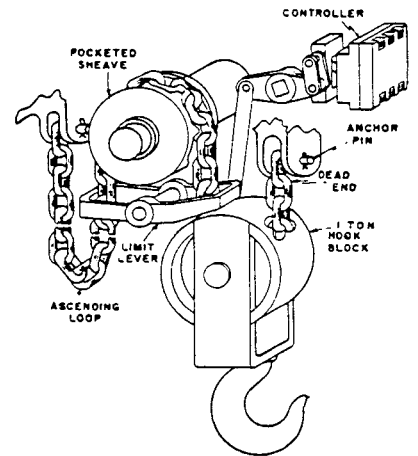
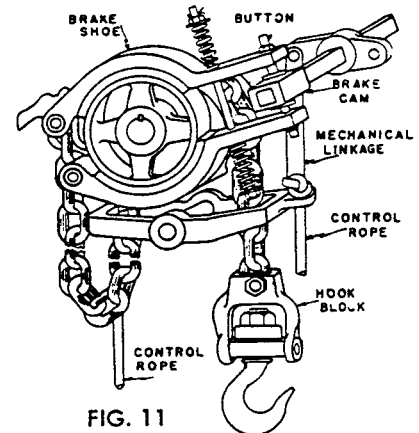

FIG. 7
FIG. 11
In the "JC" hoist a pocketed sheave takes the load chain. This load chain lays in the pockets as shown in Fig. 7 encompassing about half of the diameter of the pocket sheave. One end of the chain has the hook attached and the other end loops up and is bolted to the hoist frame. If the chain be threaded through a lever the ascending hook block will serve to rotate it as will the ascending loop in the chain — each in different direction. From this action an upper and lower limit switch is obtained. The pulling of the control rope rotates a shaft which brings the controller into electrical contact. The same shaft rotates the limit lever to a position so that the hook or chain loop will return the control to neutral position and the motor brake is applied. (See Fig. 11.)
Increased braking area of shoe-type motor brakes (Fig. 11) on Type "JC" hoists permits smoother, cushioned stops; prevents drift of the hook. Engineered for smoother braking action with more uniform distribution of wear, these brakes provide longer life and greater efficiency.
6. (a) If your hoist utilizes a single line load chain (500 and 1000 lb. capacity hoists only) attach the hook block to the free end of the chain. See Fig. 11. Rivet over the end of the bolt to prevent the nut from working off. The hoist is now ready for operation.
6. (b) If your hoist utilizes a double line load chain (2000 lb. capacity hoists only) run the chain through the hoist until approximately two feet hangs free. Thread the end through the lower block. See Fig. 7. This can be accomplished by attaching a lead wire to the chain, as described in Section 2, or by simply laying the first link, *flatwise*, in the pocket and working the sheave around by hand. As the chain is started, make certain again that it is not twisted. To eliminate twist, let the chain hang free and start it, flatwise, just as it hangs.
7. For double load chain hoists only. Fasten the free end of the chain to the anchor pin. See Fig. 7. The pin is located behind the control box plate. Make a final test to assure that the chain is not twisted before the cotter pins are inserted. The hoist is then ready for operation.